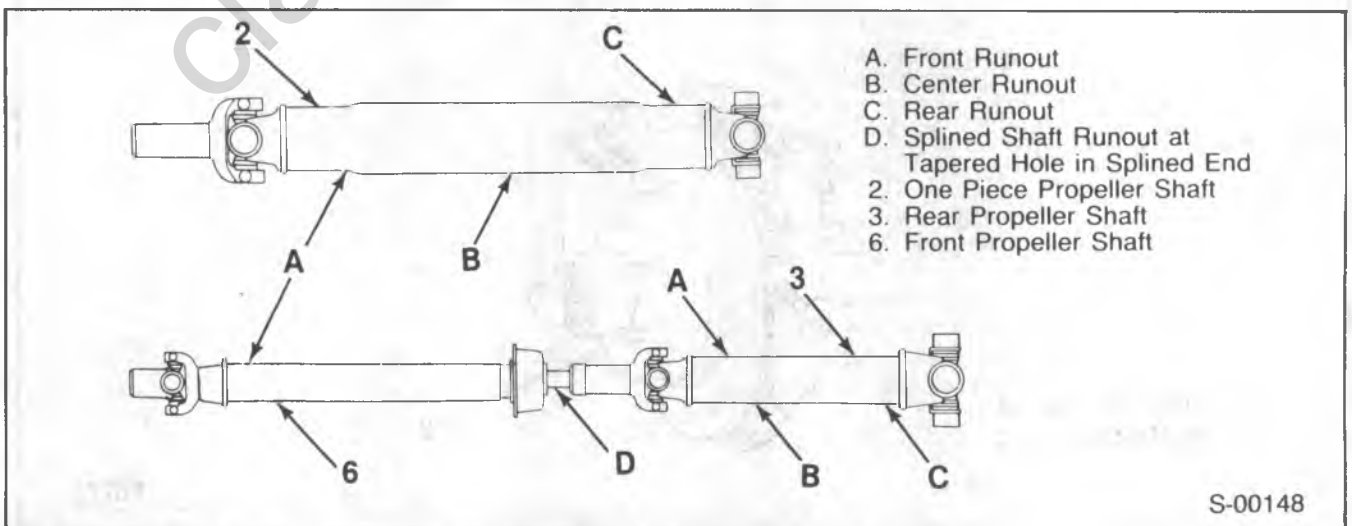

Figure 12—Checking Propeller Shaft Runout
3. Take dial indicator readings at the propeller shaft check points (figure 12).
4. With the transmission in neutral, hand rotate the axle pinion flange or the transmission yoke and take the necessary dial indicator readings on the propeller shaft. Record the readings. For models having a two-piece driveline, measure the rear propeller shaft runout (figure 12). Reference mark the position of the rear propeller shaft yoke to the pinion flange, then remove the rear propeller shaft yoke to the pinion flange, then remove the rear propeller shaft and measure the front propeller shaft runout on the tube and at the tapered hole on the splined shaft end. If the runout exceeds specification, rotate the propeller shaft 180 degrees at the companion flange and install. Check the runout.